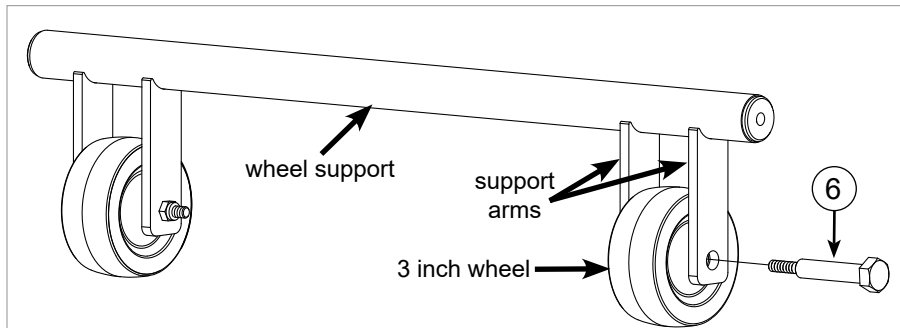

Fig. 29
11. Mount the second 3 inch wheel to the other end of the wheel support using the other fixed wheel axle, but do not thread a nut onto the axle (see Fig. 29). The fixed wheel axle passes through the outer support arm and threads through the inner support arm. Set the wheel support aside for a moment.